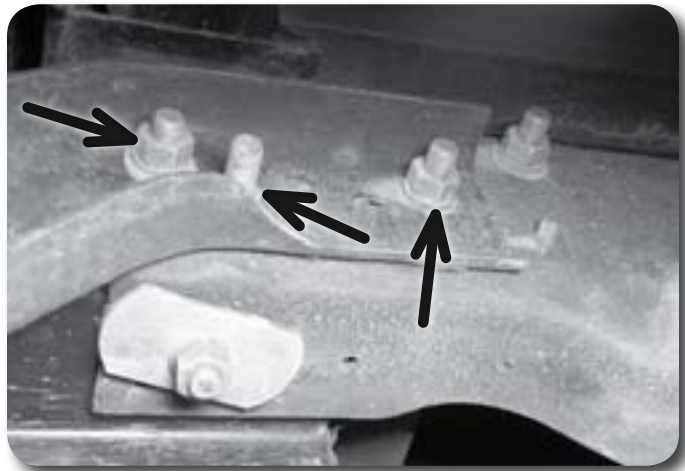

Figure 25
29. Remove the six bolts (three per side) mounting the rear bumper to the frame and remove the bumper from the vehicle **Figure 25**. Save bolts.